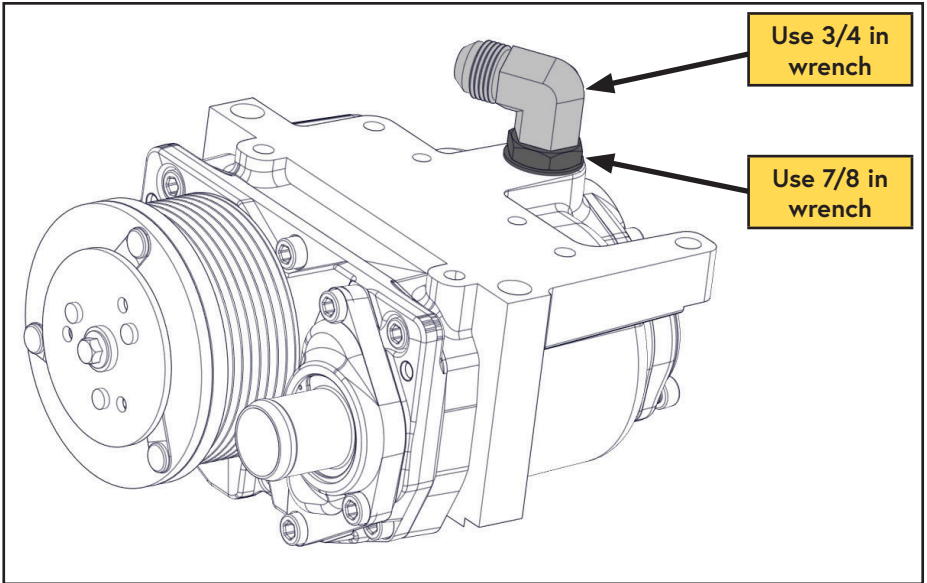

Figure 16 — Compressor discharge fitting
- The compressor discharge fitting will be oriented towards the oil return fitting, use a 3/4 in wrench to hold the fitting and a 7/8 in wrench to ensure the locking nut is tight (Figure 16).